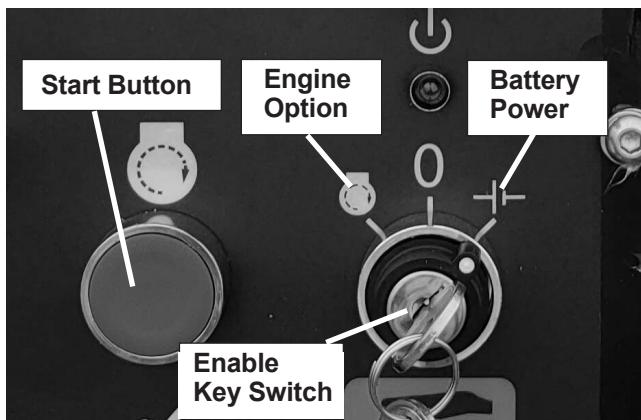

Figure 9.6 – Basket Controls
3. Alternatively, if using the basket controls turn the Enable Key Switch to engine and push the start button (refer to Figure 9.6).